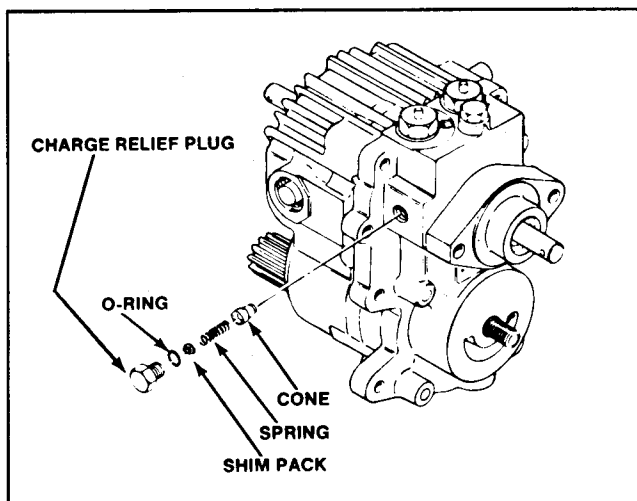

Figure 32
4. Remove the charge relief plug and O-ring from the side of the pump housing (Fig. 32). Pull the shim pack, spring, and cone out of the housing. Some oil may flow out of the transmission. A small magnet may be helpful in removing the spring and cone from the transmission.